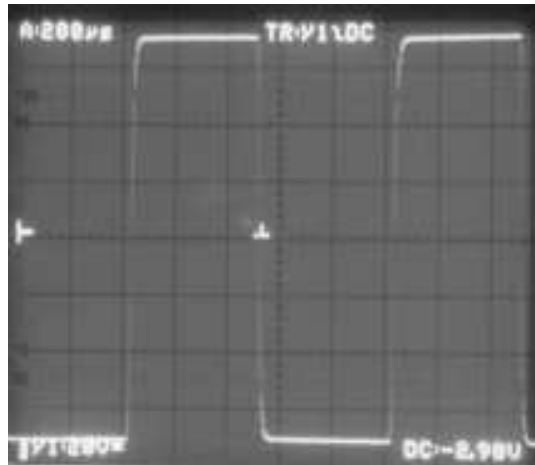

Figure 4. 150Vpp 1kHz square wave
- Square wave response (Fig. 4, 5, 6)